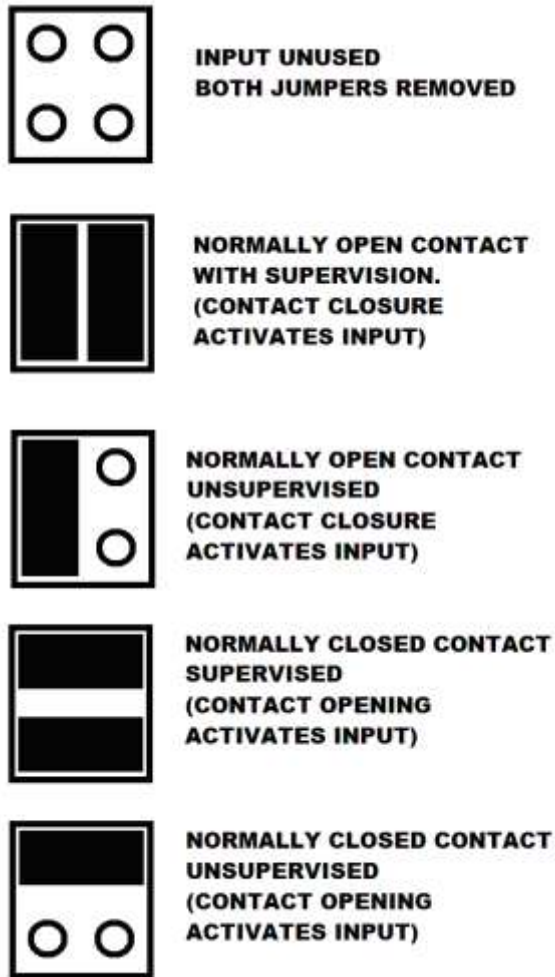

Figure 2: X1 TO X4 JUMPERS CONFIGURATION (WITH BOARD VIEWED AS IN FIGURE 1)
- Install X2 jumpers as per normally open, supervised configuration in figure 2.
- Install X4 jumpers as per normally open, unsupervised configuration in figure 2.